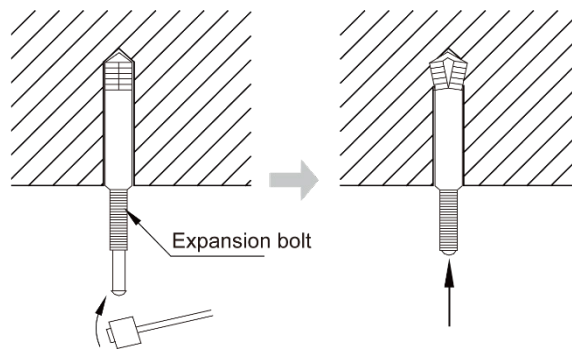

Fig. 4
- 2) Insert the M10 expansion bolt into the hole and then knock the nail into the bolt, as shown in Fig 4.